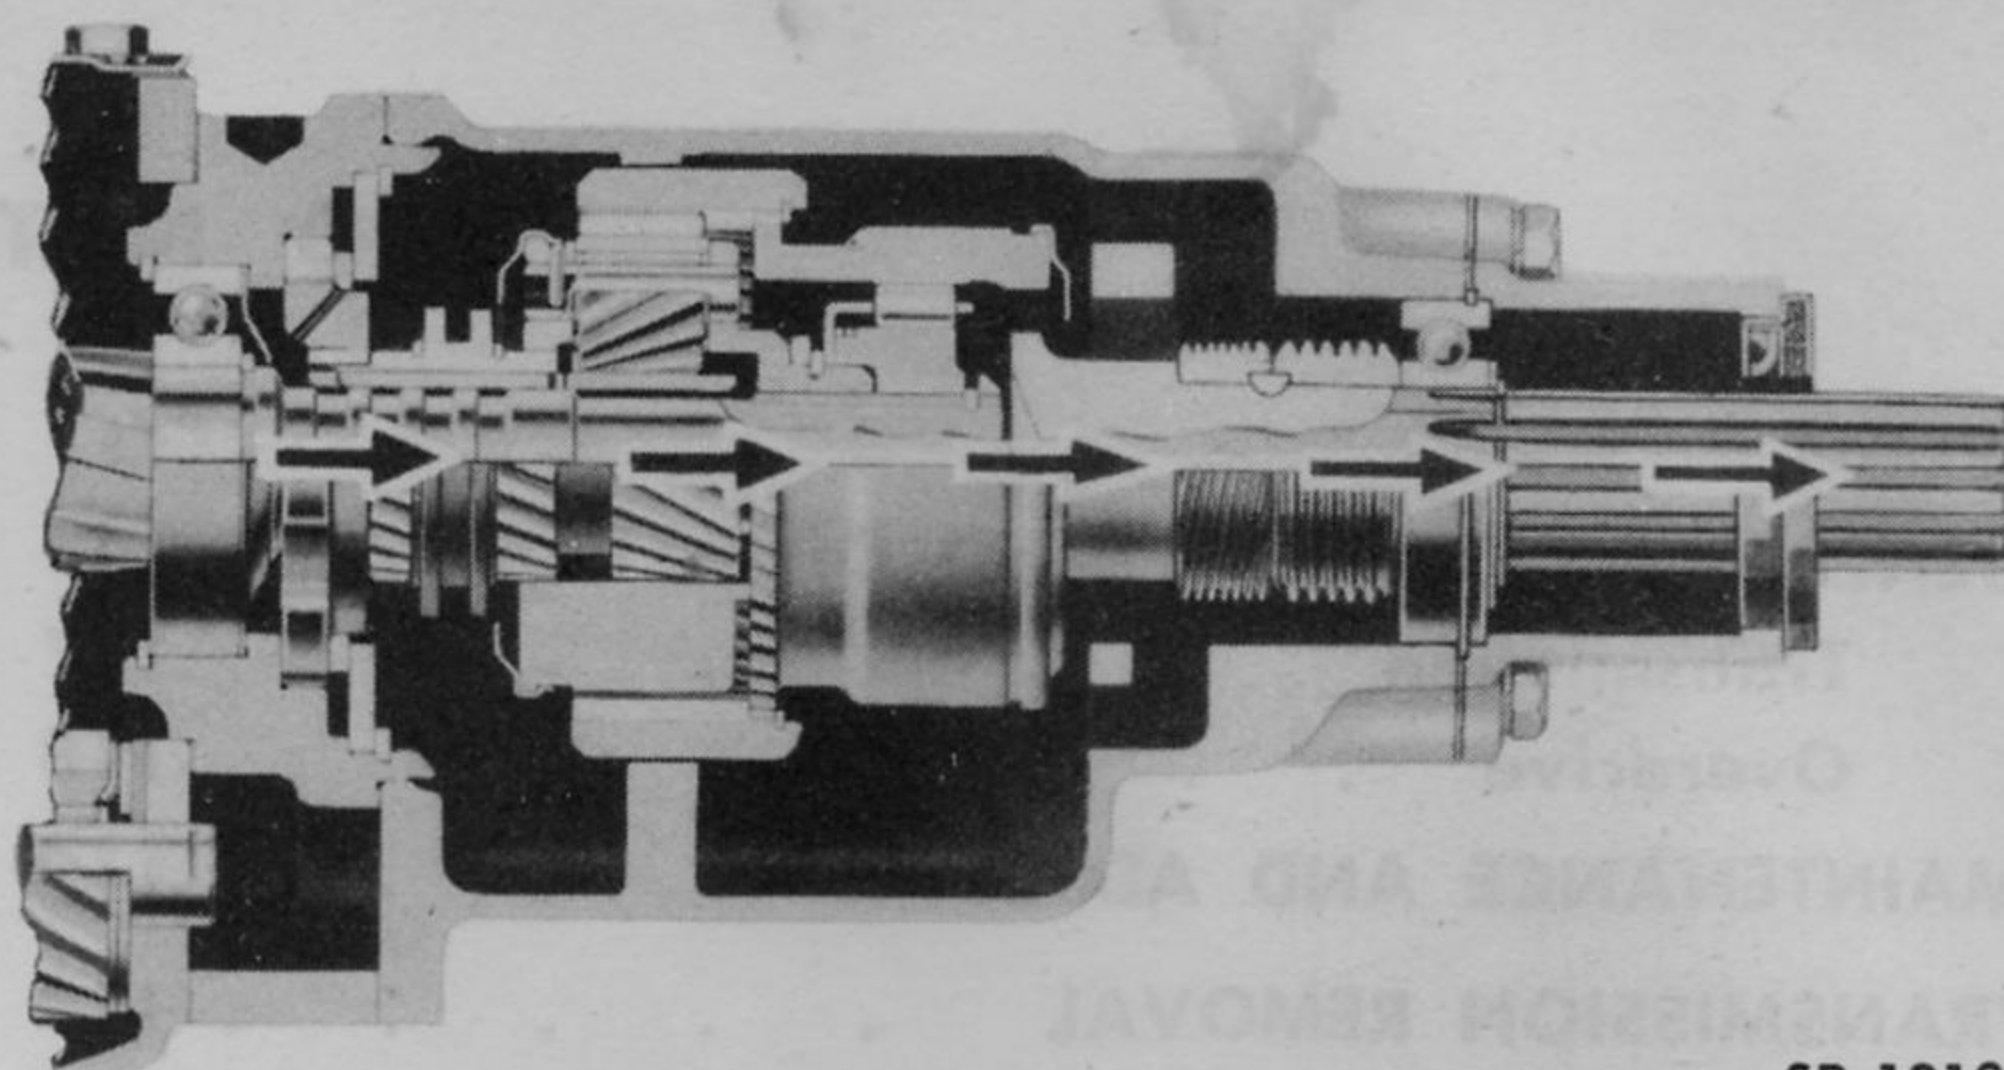

Fig. 181—Overdrive Unit Disengaged
1. Operation with Overdrive Disengaged. When the overdrive control knob is pulled out the shift fork rail in the overdrive is operated to move the stationary gear into engagement with the pinion cage assembly, locking the stationary gear in the pinion cage so that they rotate as a unit in one to one ratio with the transmission drive shaft (Fig. 181). Refer to Fig. 208 for exploded view.